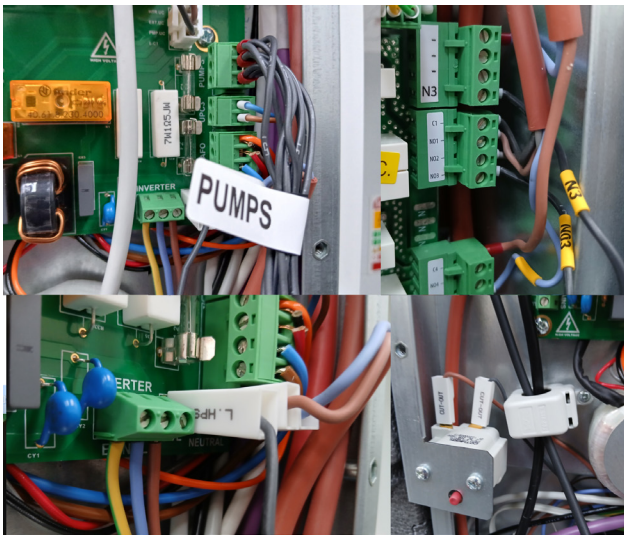

Fig. 68 : Remove Supply Loom Connections
12. Remove Supply Loom by disconnecting the 5 separate connections shown. Unplug cconnector for PUMPS, terminal for Cut-out and terminal for L.HPSW. Unscrew N03 and N3 from respective connectors. See Fig 68.